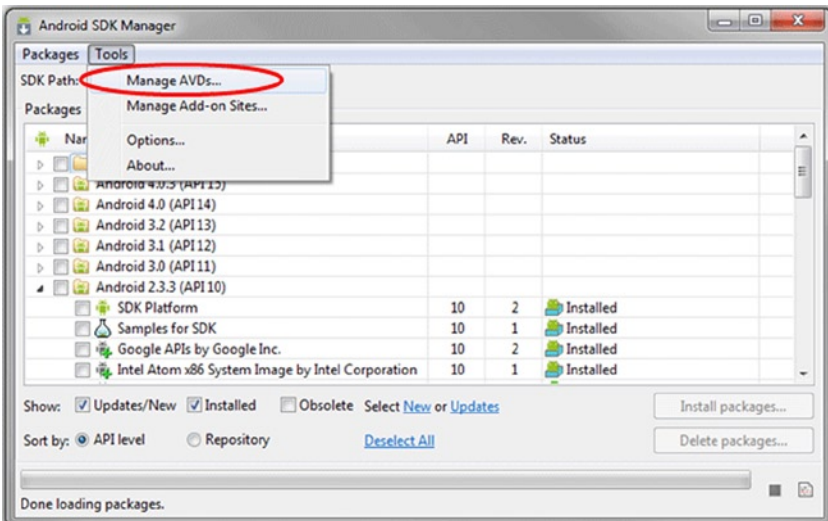

Figure 8-5. Android SDK Manager—Manage Android Virtual Devices
6. Select Manage AVDs from the Tools menu (see Figure 8-5).